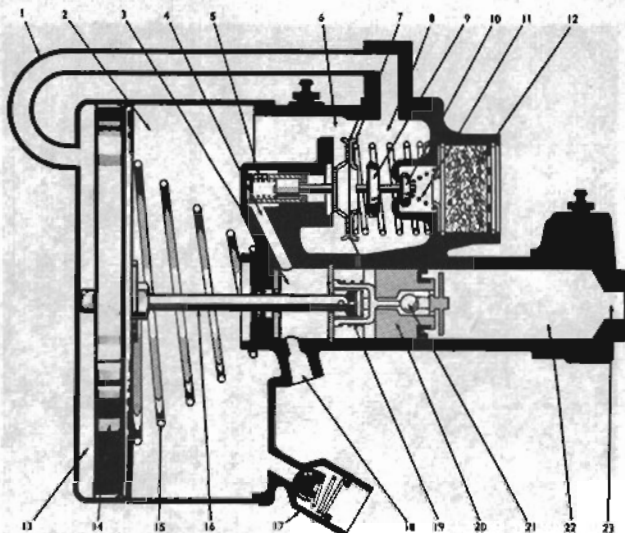

FIG. 27 POWER UNIT IN RELEASED POSITION
## KEY TO FIGURES 27 AND 28
(See Fig. 27)*
When the pressure is released from the left side of the piston (5), the piston moves to the left (see Fig. 27) seating the atmosphere poppet (10), after which the vacuum differential pushes the seat on the diaphragm assembly (7) away from the vacuum poppet (9). The manifold vacuum from the chamber (6) is again communicated to the cylinder chamber (13) through the valve chamber (8) and the tube (1). The spring (15) returns the power piston (14) and hydraulic piston (20) to the released position. The yoke (19) lifts the ball of the check valve (21) from its seat, opening chamber (22) to chamber (3). This allows for any fluid expansion or contraction in the lines to be compensated for from the master cylinder reservoir.